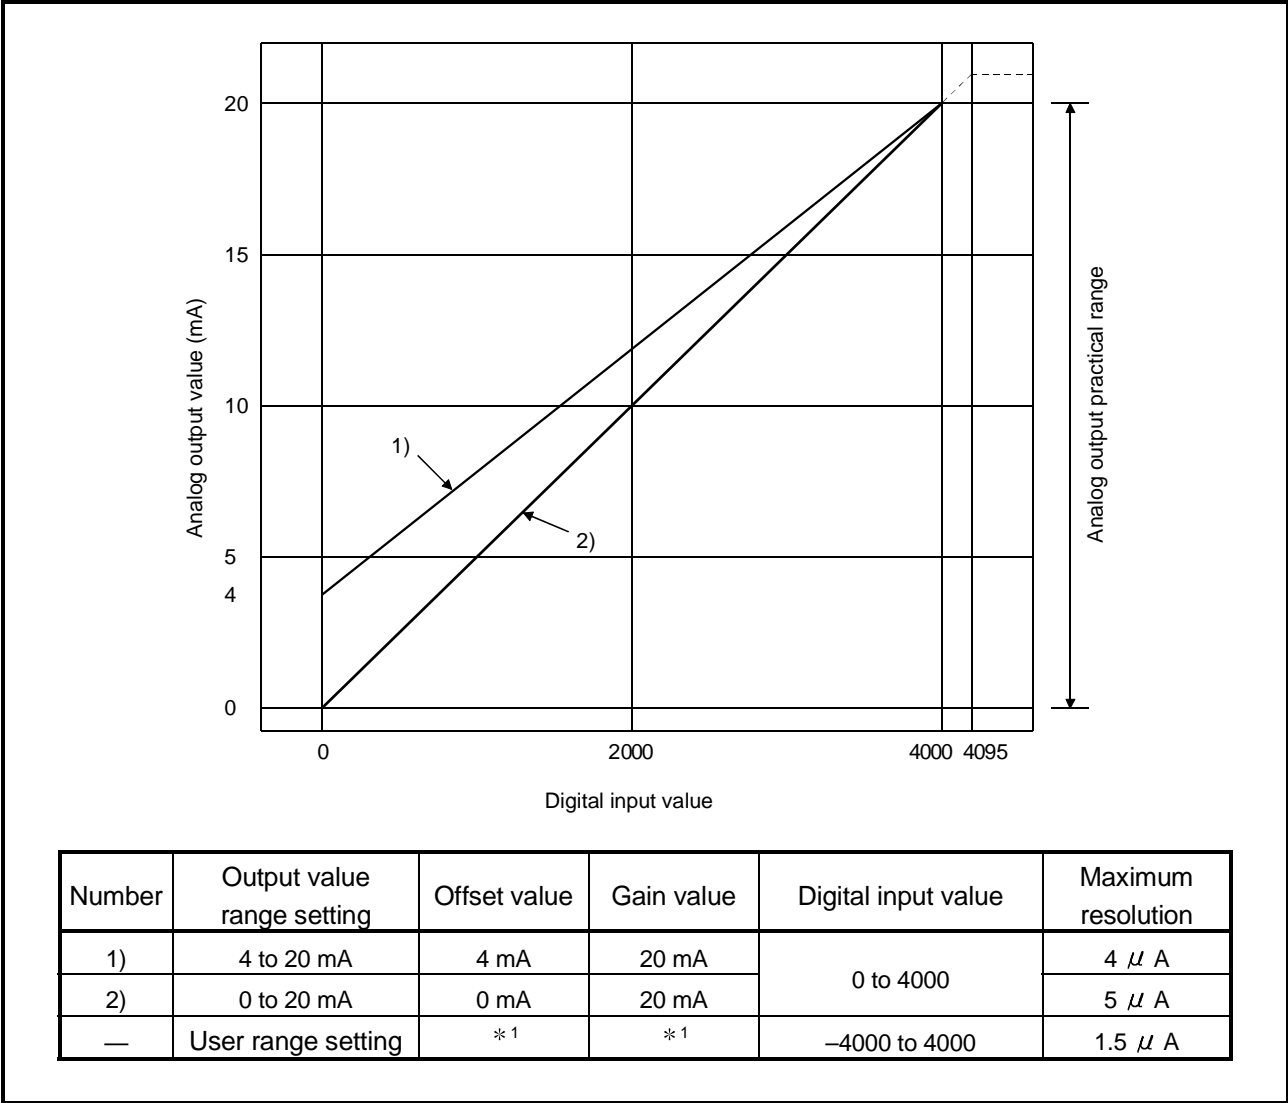

Figure 3.3 Current output characteristic in normal resolution mode
Figure 3.3 shows a graph of the current output characteristic in normal resolution mode.
(1)	Set within the digital input range and analog output range for each output range. If these ranges are exceeded, the maximum resolution and accuracy may not fall within the performance specifications. (Avoid using the dotted line area shown in Figures 3.3 and 3.4.)
(2)	Set the offset/gain values for the user setting range *1 within a range in which the following conditions are satisfied. (a) Setting range is from 0 to 20 mA (b) { (Gain value) – (Offset value) } > A <Value of A> <table><tr><th>Normal resolution mode</th><th>High resolution mode</th></tr><tr><td>6.0 mA</td><td>10.0 mA</td></tr></table>	Normal resolution mode	High resolution mode	6.0 mA	10.0 mA